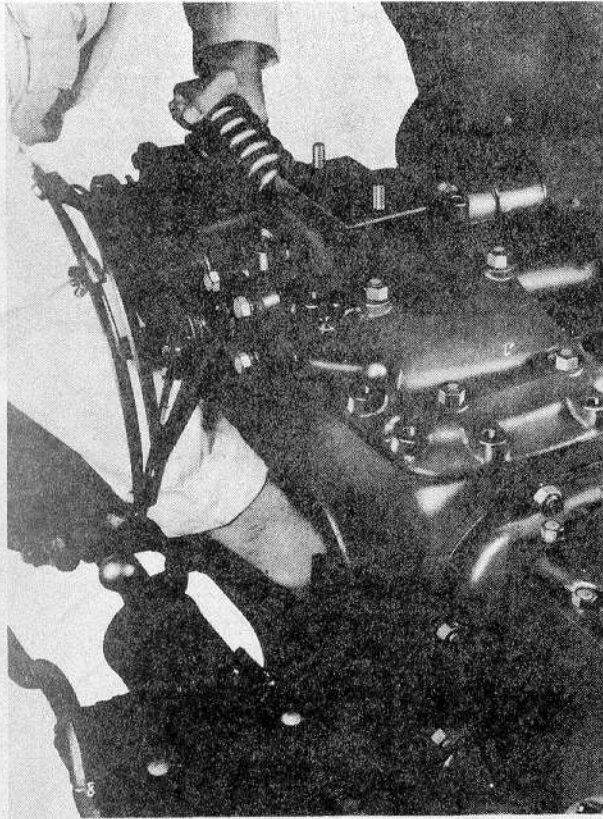

Fig. 8
Step 4—Insert the right hand in the center housing at the inspection plate opening, as shown in Figure 8 and guide the tip of the control arm into position in the control valve lever.